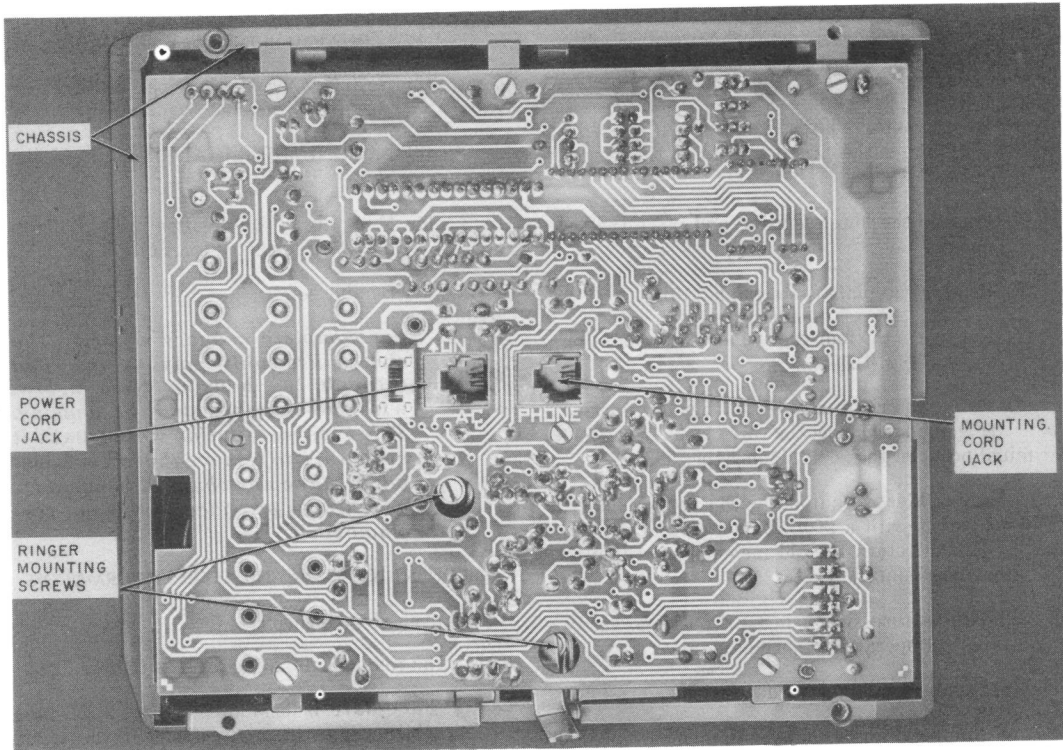

Fig. 9—Bottom View of Power Supply Board (Lower Housing Removed)
- **Ringer** is fastened by two screws to bosses on the bottom of the chassis (Fig. 9) and rests in a cavity just to the rear of the battery cavity (Fig. 5).
- **Power Supply Printed Wiring Board Assembly** is fastened by six screws to bosses on the bottom of the chassis (Fig. 9).